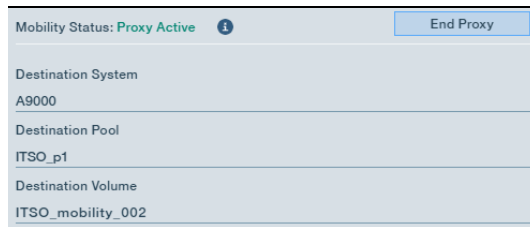

Figure 7-27 End the Hyper-Scale Mobility proxy
2. Select **End Proxy**, as shown in Figure 7-27.